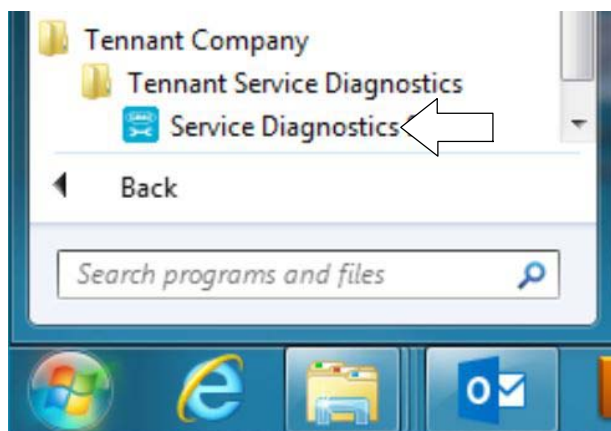

Fig. 31
For Tennant service personnel equipped with ServiceLink computers, the software is pre-installed on your computer as shown below. The software application is titled “**Service Diagnostics**” (Figure 31).
7. After the service application software is installed on your computer, refer to figure 31 to access the program.
5. After the application software is installed on your computer, refer to figure 31 to access the program.